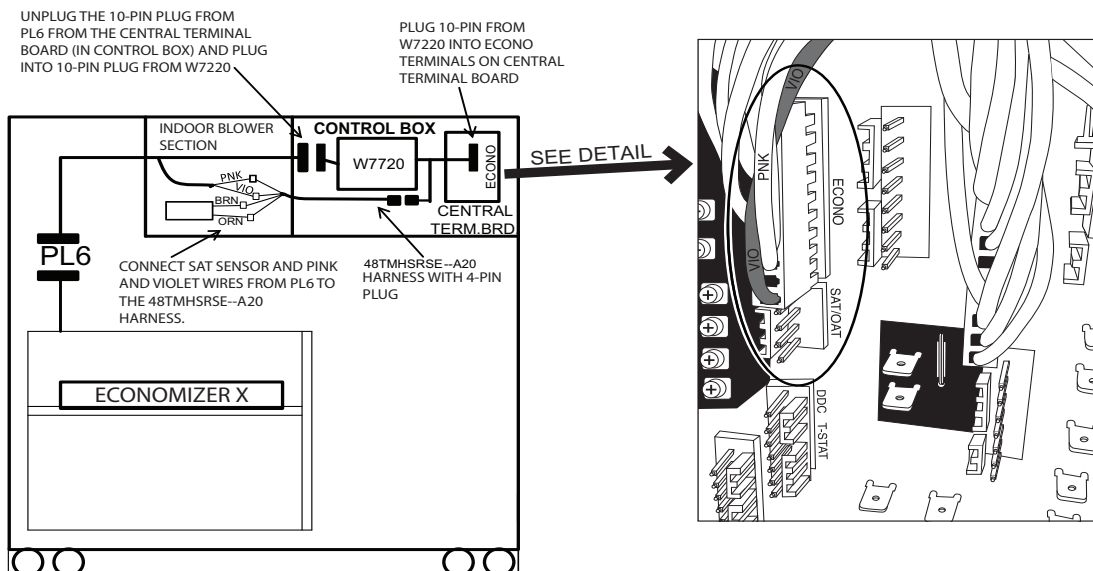

Fig. 13 — Harness Detail
16. The W7220 EconoMi\$er X controller is shipped mounted to a bracket. Install the controller / bracket in the top left corner of the unit control box as shown in wiring diagram, Fig. 13 and 8. Screw in place through pre-punched holes.
- NOTE: Provided harness 48TMHSRSE--A20 will be connected as shown in Fig. 13 and 8.
3. Unplug the econo harness from PL6 with 10-pin plug shown in Fig. 13, from Central Terminal Board (CTB).
5. Connect other 10-pin plug from W7220 controller into ECONO terminals on CTB. See Fig. 13.
9. Inside the indoor blower section connect the pink and violet wires from the PL6 harness to the (2) green wires leading to the SAT.